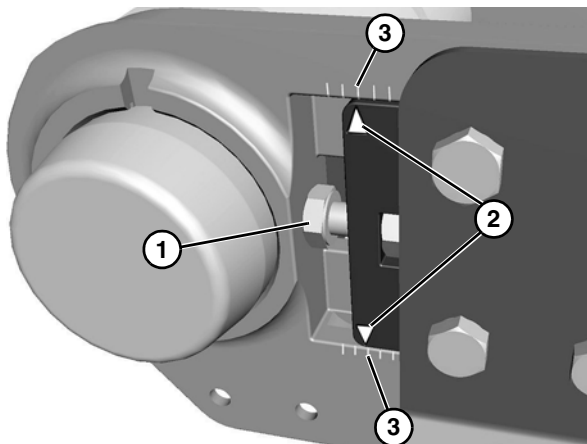

Figure 34
1. Tighten bolts (**Figure 34, item 1**) on each side to take up tension. Align the same arrows (**Figure 34, item 2**) and marks (**Figure 34, item 3**) on each side of the conveyor to keep the tail straight.